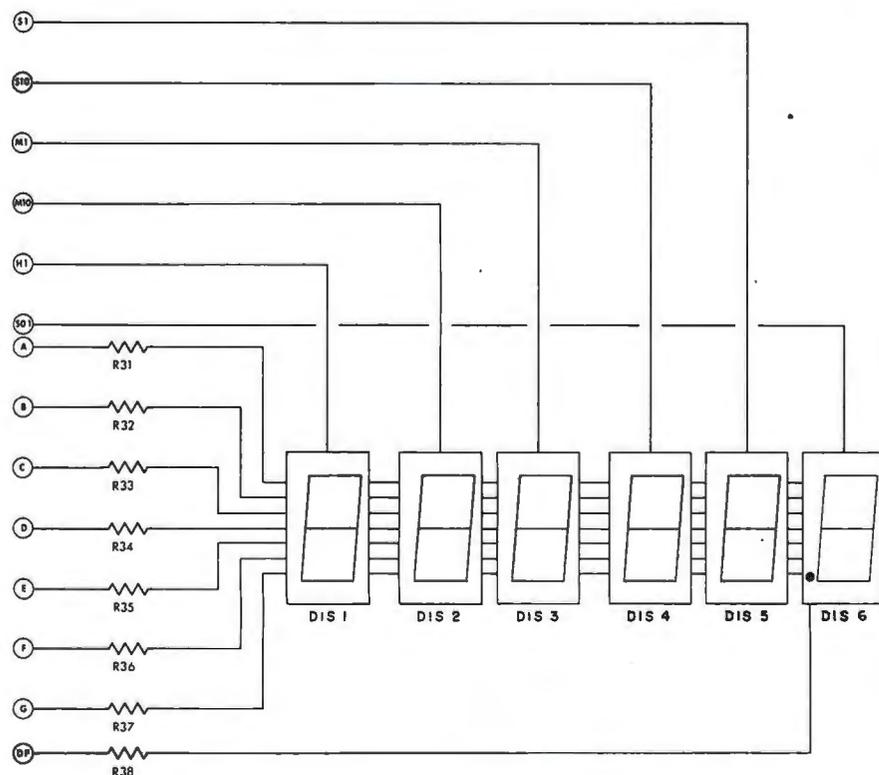

Fig. 1. Complete schematic of stopclock is shown above and on opposite page.
**How It Works.** As shown in Fig. 1, the output of IC4 is in a multiplex seven-segment format, with each LED display turned on for one-sixth of the display cycle. The seven segment lines coming from Q9 through Q15 carry the segment information to all six digits (DIS1 through DIS6), while the six digit-enable lines coming from Q3 through Q8 turn on the digits one at a
**Construction.** The stopclock is best assembled on two printed circuit boards, the etching and drilling and component placement guides for which are shown in Fig. 2. The circuit is split between the main and display boards as shown by the two sections in Fig. 1.
Connect and solder the free ends of the wires coming from holes H and I to the lugs of *TS1* and the free ends of the J, K, L, and M wires to lugs 3, 6, 4, and 5, respectively of *TS2*. Solder 5" lengths of hookup wire to each of the lugs on *TS2* and wire them to the switches as shown in Fig. 1. Label *TS1* 12 VOLTS AC and lugs 3 through 6 on *TS2* STOP, START, RESET, and GROUND, respectively. Then label switches *S1*, *S2*, and *S3* STOP, START, and RESET, respectively.
Bear in mind that each of the three circuits operated by the pushbutton switches in Fig. 1 is held at +12 volts by *R1*, *R2*, and *R3*. To enable an input, the bottom ends of these resistors must be connected to ground. Therefore, any external switching device connected to *TS2* must have an on resistance of less than 100 ohms and an off resistance in excess of 10,000 ohms. In the momentary-on condition, the external switching device must be capable of handling 12 mA of current.